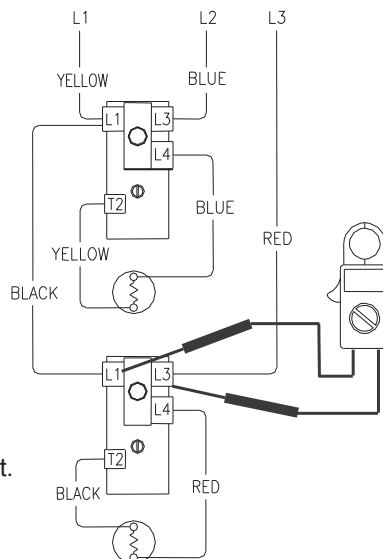

Figure 20
6. Check across terminals L1 & L3 of lower thermostat (see Figure 20).